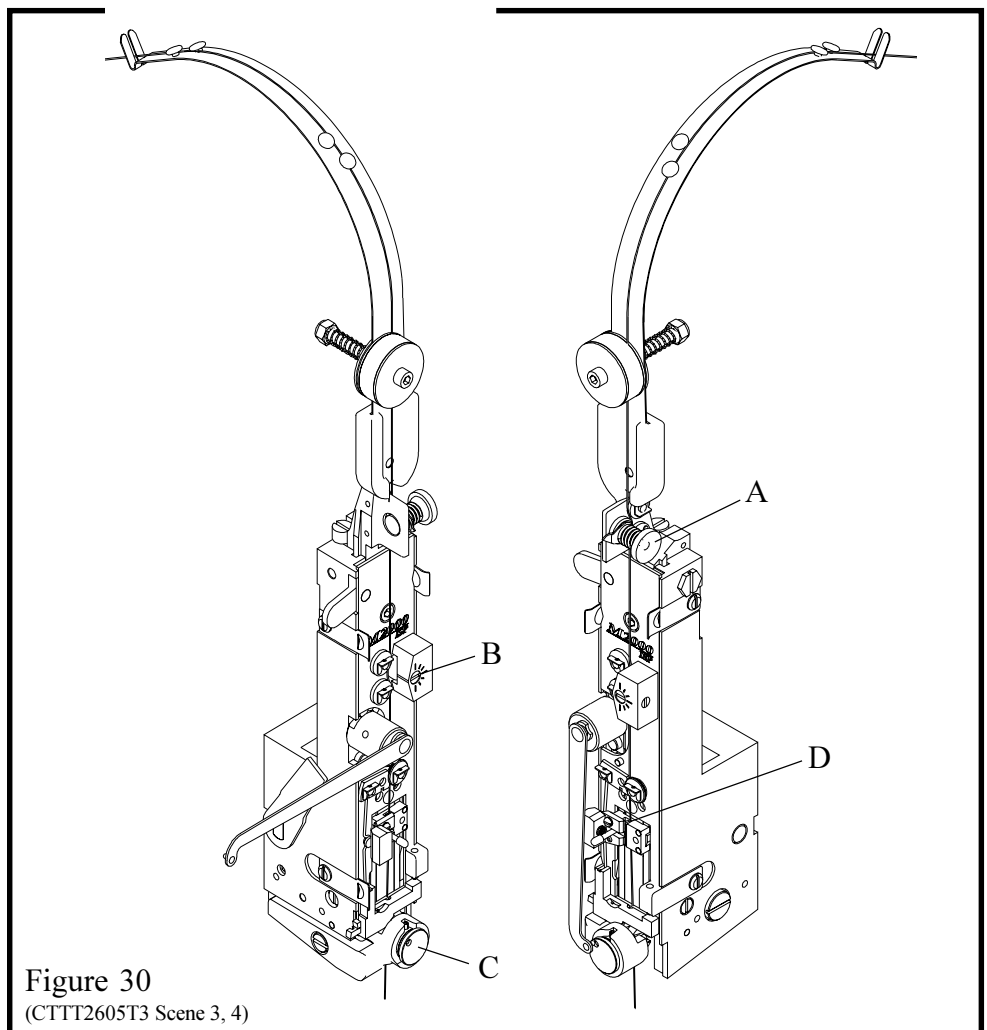

Figure 30
P. Wire Straighteners: (Figure 30)
The lower wire straightener directs the wire straight down so that it enters the rotator (Index C). If the wire is not straight enough it hits the rotator and buckles. Adjust the lower wire straightener so that the wire points straight down as in figure 30. Improper straightening of the wire can also cause the stitch legs to buckle or turn out because they strike the clincher improperly. Excessive tension on the wire straightener prevents the grip (Index D) from feeding the wire smoothly. This causes variation in leg length.